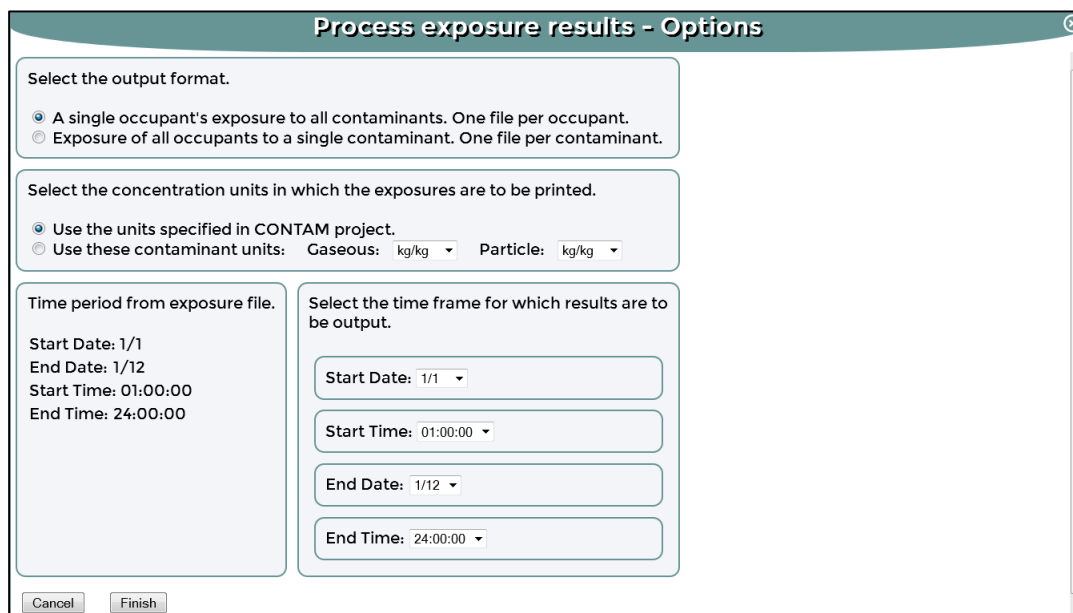

Figure 17. Processing exposure results (organization, units, and timeframe)
3. Select the options related to exporting exposure results (Figure 17):